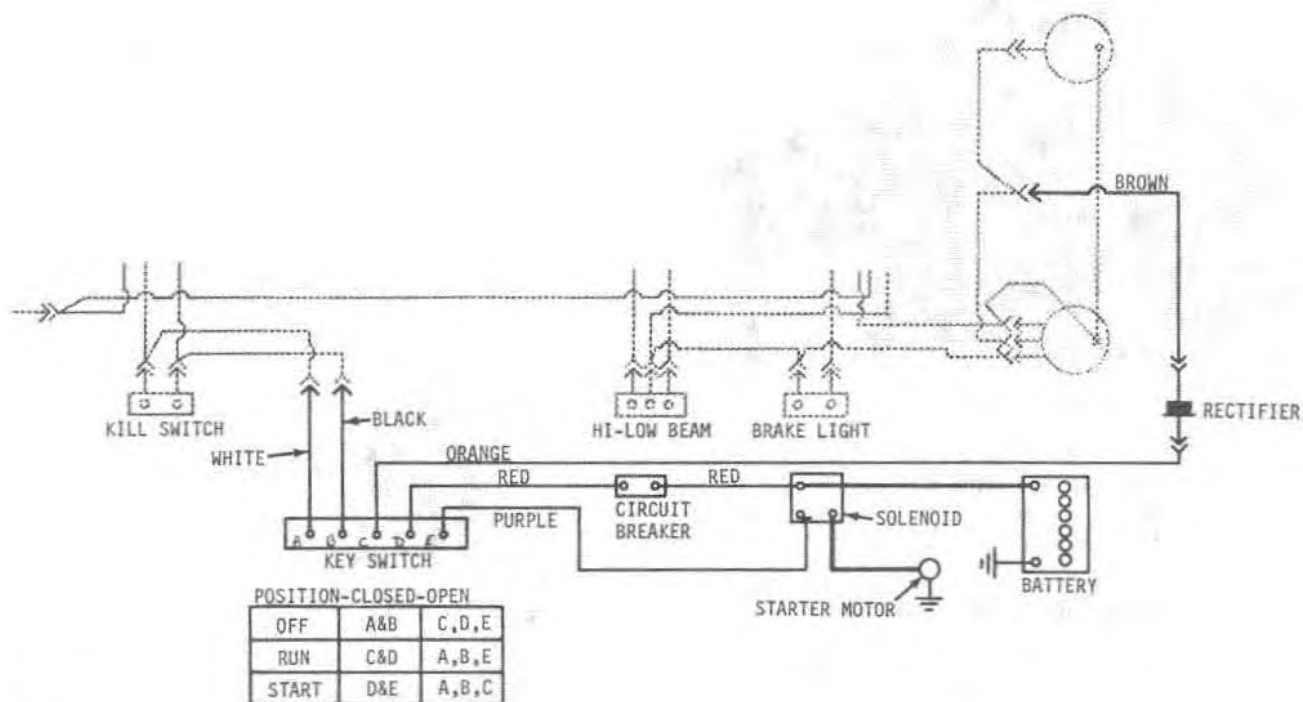

Fig. 9-Headlight Adjustment Screws
3. Loosen or tighten the two adjusting screws to raise or lower the light beam, Fig. 9.